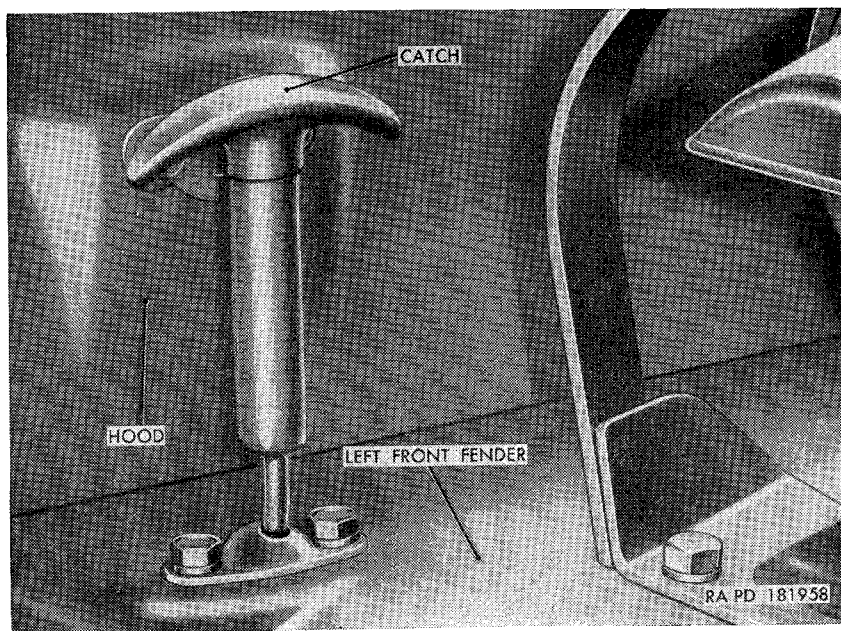
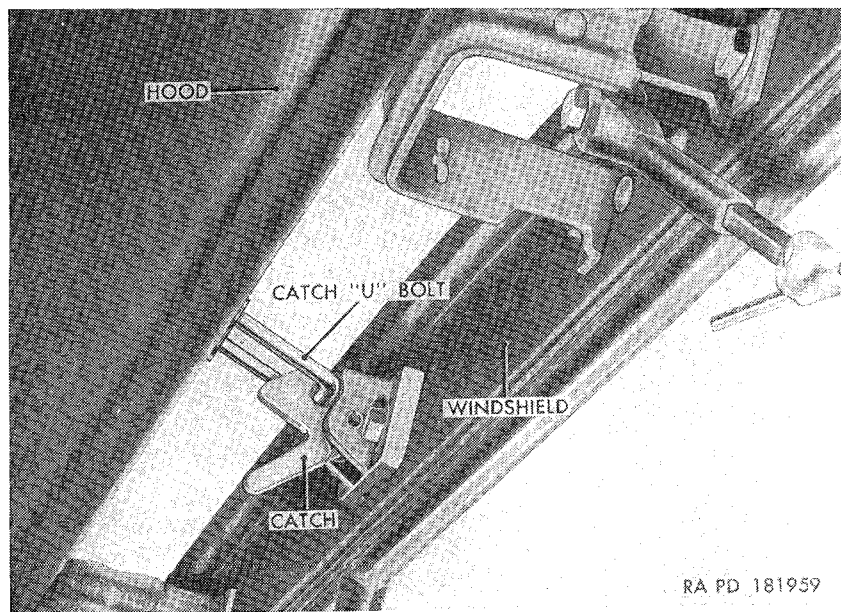

Figure 176. Hood catch engaged.
Figure 177. Hood lock catch engaged at top of windshield.
a. Raising. Unhook the hood catch (fig. 176) from the catch bracket on each side of the hood assembly. Raise the hood up and rearward until it rests against the top of the windshield assembly. Lock the hood in raised position by engaging the catch U-bolt on the hood in the lock catch at top of the windshield (fig. 177).
b. Lowering. Disengage the catch U-bolt from the lock catch (fig. 177) at the top of the windshield. Lower hood until its front rests on the radiator guard. Secure hood in closed position by hooking a hood catch (fig. 176) onto a catch bracket on each side of the hood.
c. Removal. Unhook the hood catch from the catch bracket on each side of the hood (fig. 176). Raise hood until it is almost up against windshield, line up the flat sides on the hinge pins with the openings in the hood hinge assemblies and lift the hood to disengage
d. Installation. Position the hood in an upright position over the body cowl. Aline the flat sides of the hinge pins with the openings in the hood hinges and slip the pins into the hinges. Lower hood to the closed position. Secure hood in closed position by hooking a hood catch (fig. 176) onto a catch bracket on each side of the hood.